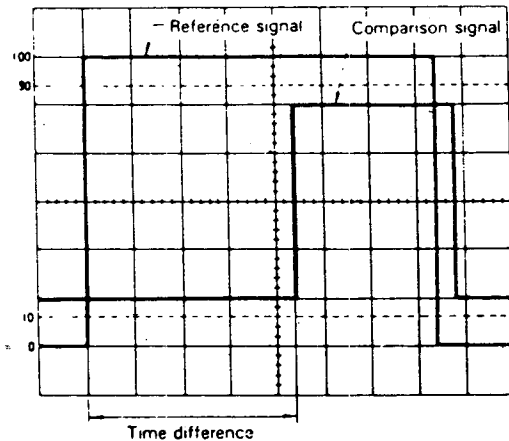

Fig. 19 Time Difference Measurement.
(Refer to Fig. 19)
3. Use the **POSITION** controls to superimpose both waveforms to intersect the center horizontal graduation line as shown in Fig. 19. Use the **X POSITION** control to set the reference signal coincident with one of the vertical graduation lines.
For the example shown in Fig. 19, the horizontal distance measured is 4.4 divisions. If the sweep **TIME/DIV** is 0.2 ms and **X10** magnification is not used, the time difference is calculated as follows: